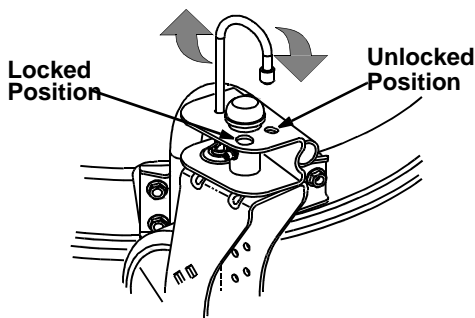

FIGURE 9
- **To lock caster:** Lift and place the lock pin in the larger hole on each caster. See Figure 9.